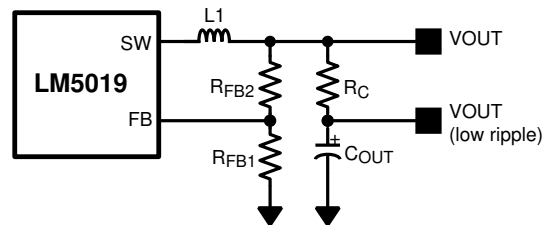

Figure 7-1. Low Ripple Output Configuration
This regulator regulates the output voltage based on ripple voltage at the feedback input, requiring a minimum amount of ESR for the output capacitor (C_{OUT}). A minimum of 25 mV of ripple voltage at the feedback pin (FB) is required for the LM5019. In cases where the capacitor ESR is too small, additional series resistance can be required (R_C in Figure 7-1).
For applications where lower output voltage ripple is required, the output can be taken directly from a low ESR output capacitor, as shown in Figure 7-1. However, R_C slightly degrades the load regulation.